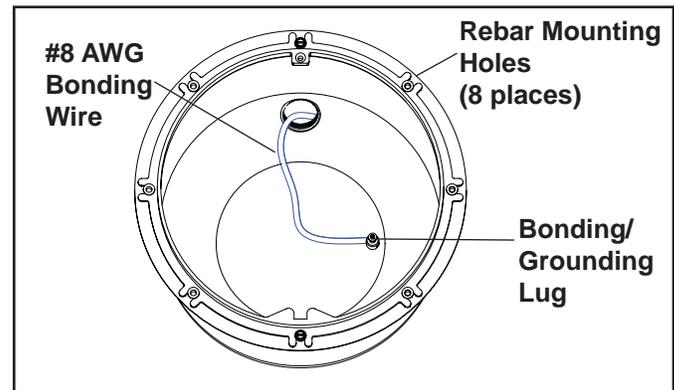

Figure 6. Stainless Steel Niche Bonding Wire Installation
- e. If rigid nonmetallic conduit is used, a #8 AWG bonding wire is required to run through conduit from the junction box to the bonding/grounding lug inside of niche. Seal the wire/lug connection with a listed sealant. See Figure 6. If metallic conduit is used a #8 AWG bonding wire is not required.